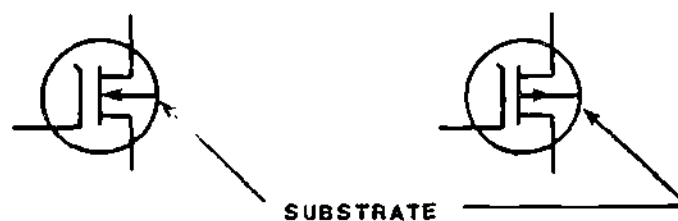

Figure 18
19. Recall that there are four elements in a MOSFET, and therefore four device leads. Figure 18 points out the substrate elements on the schematic symbols for N-and P-channel MOSFETs.